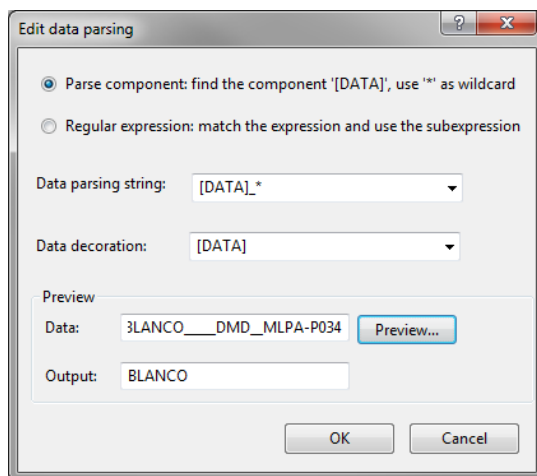

Figure 2.3: Data parsing string.
4.9 Press the **<Preview>** button and press **<OK>** when the parsing is correct (see Figure 2.3).